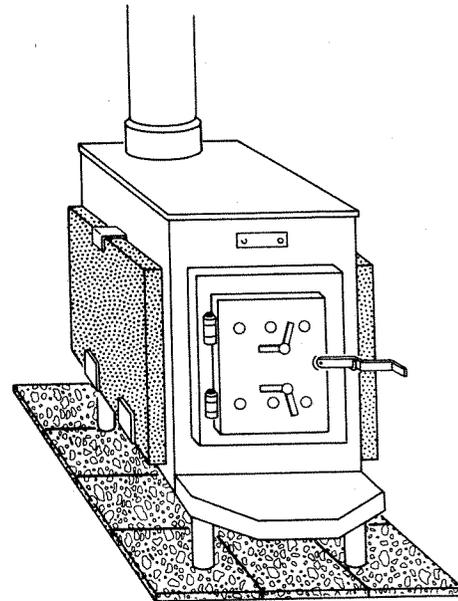

Fig. 17. Independence box stove with soapstone slabs.
21. **The Stoveworks** (manufacturer), Box 172, Marlboro, VT 05344. Both Independence models (Fig. 17 and Table 1) can be fitted with soapstone slabs to convert the stoves to a convection heater. Optional also is a hot-water coil mounted inside the firebox. Scandinavian-type baffles are standard.